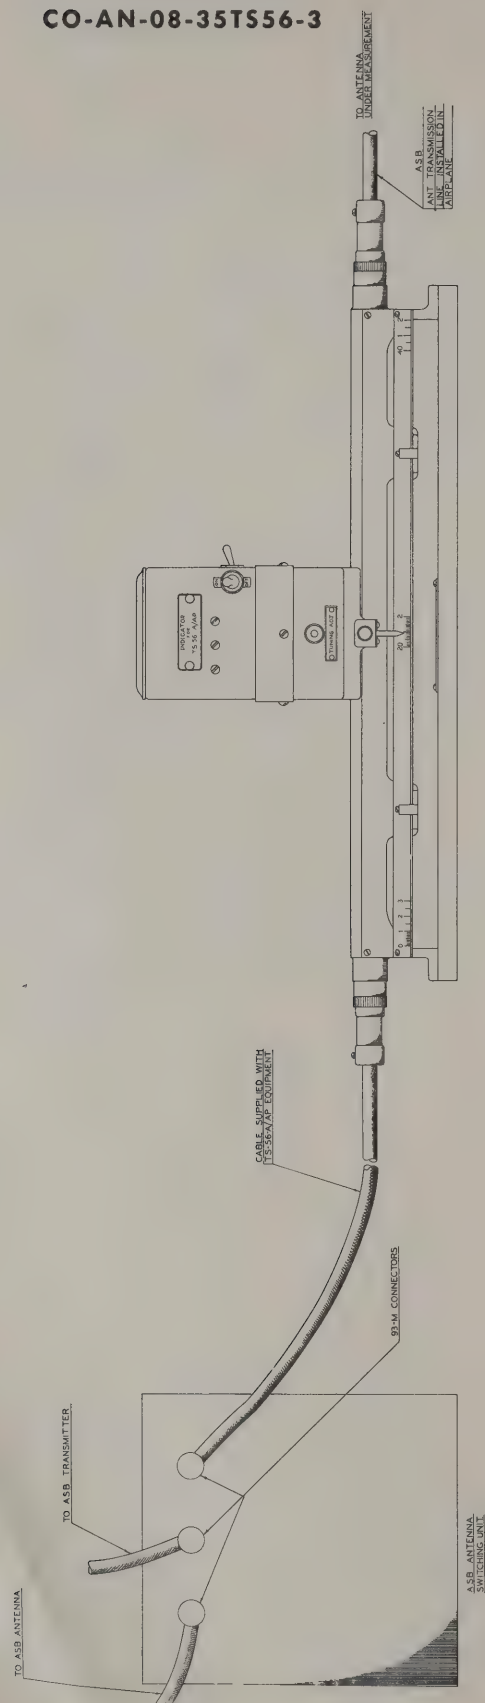

Figure 8. Connections for Slotted Line Measurements on ASB Antenna Transmission Lines
c. For matching antennas on ASB installations, the equipment is connected as shown in Figure 8. The standing waves on the antenna transmission lines may be measured under nearly actual operating conditions. The only departure from actual operating conditions is the presence of the slotted line and the cable in series with the antenna transmission line. The reflections introduced in the transmission line due to the presence of the slotted line equipment are negligible so that the standing wave ratio indicated may be taken as the true ratio even after the slotted line equipment is removed from the system. This condition will be true only for very short lengths of connecting cable such as supplied with the slotted line equipment.
b. The slotted line equipment is connected as shown in Figure 8.